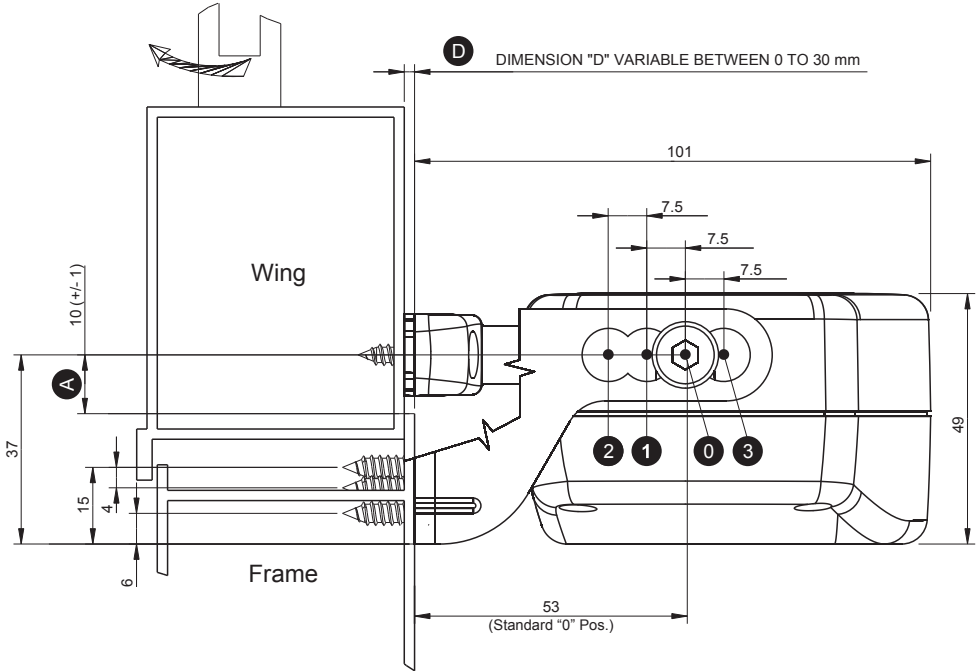

Fig.7b Dimensions in mm
- 5) **Fig.30-** Align the bottom hung bracket with the centre line of the window using as reference the central hole of the fastening screws and position the bottom hung bracket at **Ⓔ** (**see Fig. 7b**), then mark the drilling points;
- 7) **Fig.33-** Tighten with the two standard supplied screws (**Ref. 1**) the actuator on the bracket connecting it to the window frame in the position "0" (**see Fig. 7b**) and unscrew the chain adjustment end screw;
- 8) **Fig.34-** Select the position of the actuator with reference to the bracket connecting it to the window frame (**see Fig. 7b**) and connect the chain end to the bottom hung bracket;